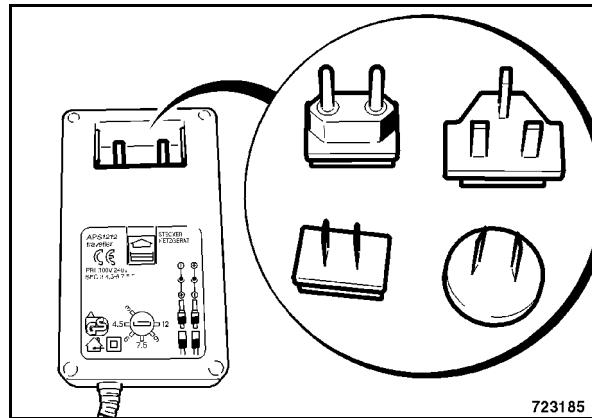

Fig. 74
- Plug the corresponding plug (Fig. 74) onto the mains unit of the battery charger.